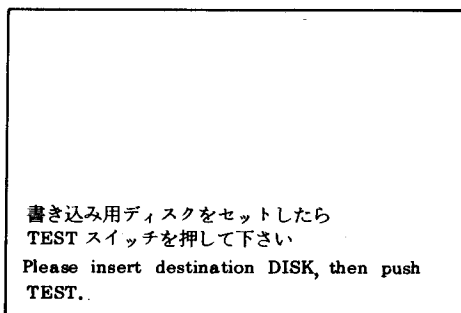
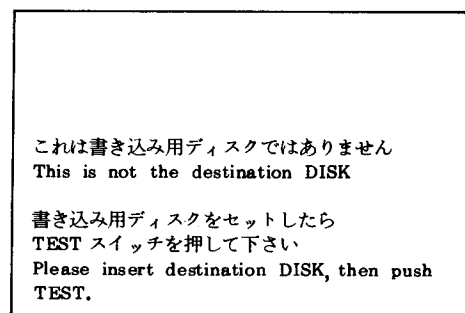
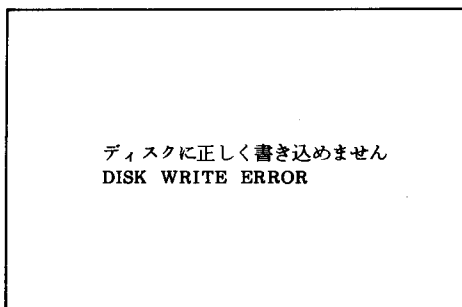
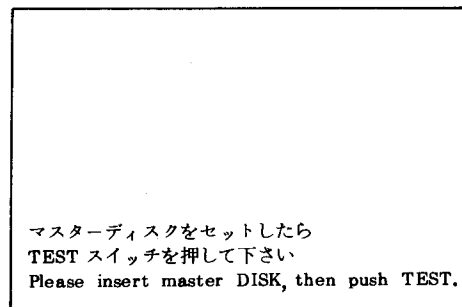

Fig. 5
Fig. 6
Fig. 7
Fig. 8
(3) When the reading is finished, Fig. 5 will be shown. Remove the master disk and set the disk for WRITE to the drive and push the TEST SW. At this time, where PROTECT is set to WRITE NO, Fig. 6 will be shown. Therefore, set the switch to WRITE OK and push the TEST SW after resetting. Also, if the Floppy disk is defective, Fig. 7 will be shown. In this case, replace it with a good one and redo starting from (1). When WRITE is finished, Fig. 8 will be displayed.